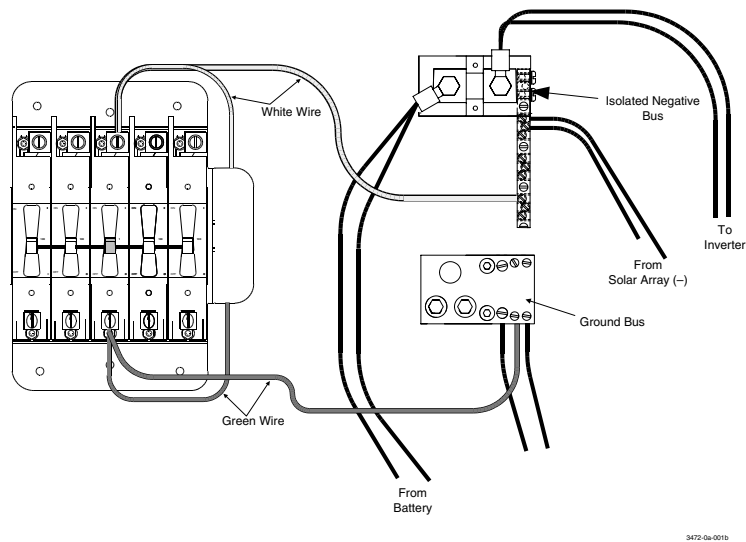

Figure 7
3. Tighten the connections. Refer to Figure 7.